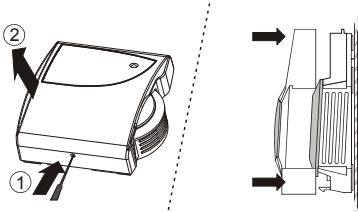

Fig. 2. Cover disassembly / assembly
The sub-base mounts separately for ease of installation; to disassemble the cover and the sub-base, see Fig. 2.
1. The cover of the wall module is fixed by a tab on the underside of the unit. Disassembly: see Fig. 2.
5. Remount cover (Fig. 2) and ensure tab is engaged.